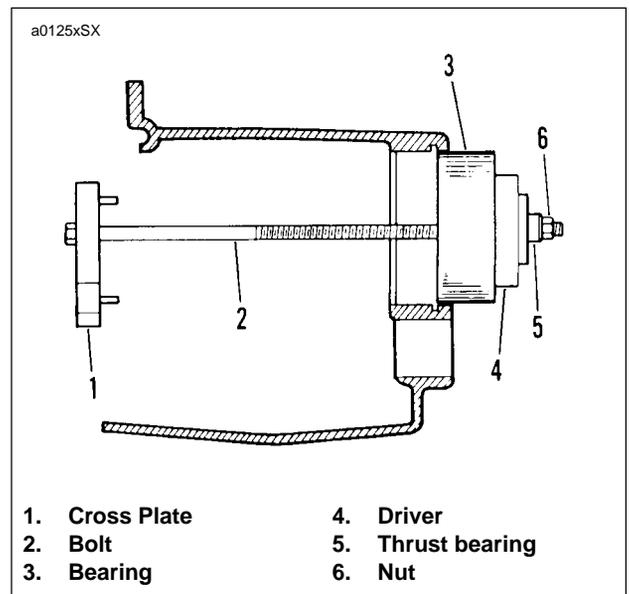

Figure 6-77. Installing Mainshaft Ball Bearing
2. See Figure 6-77. Insert bolt (2) through cross plate (1), **new** bearing (3), driver (4) and thrust bearing (5). Thread nut (6) on end of bolt. Tighten nut carefully until bearing is started in bore squarely. Tighten nut (6) until bearing is seated against shoulder in bore.